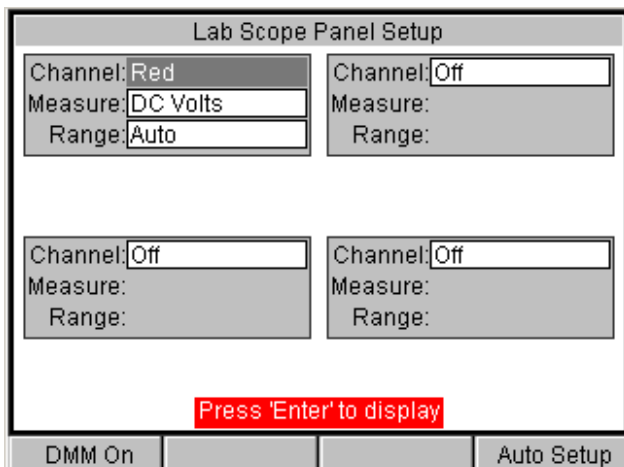

Figure 7.5: Lab Scope Panel Setup Screen, DMM Off
- 2 From the main menu screens, select **Scope** and then **Lab Scope**. This displays the Lab Scope Panel Setup screen (see Figure 7.5).
In addition to the DMM On and Auto Setup function keys that appear on the Lab Scope Panel Setup screen (Figure 7.5), there are two groups of function keys that appear after you display the waveforms.